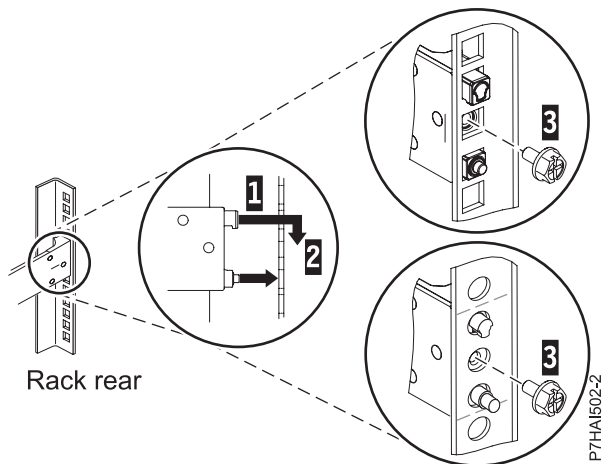

Figure 5. Aligning and engaging the pins into the holes in the rear of the rack
3. Align the two pins on the rear of the slide rail with the top and bottom holes within the selected U that were previously marked. Pull the slide rail toward you to insert the two pins into the rack holes (1), and lower the slide rail down (2) to engage the hook feature on the top pin, as shown in Figure 5 on page 7. Ensure the two pins protrude through the rack holes before proceeding to the next step.